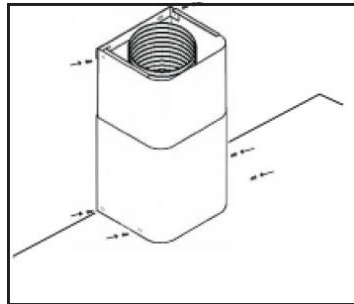

Fig. 2f
- o. Secure it with the (2) duct cover screws provided. **(Fig. 2f)**